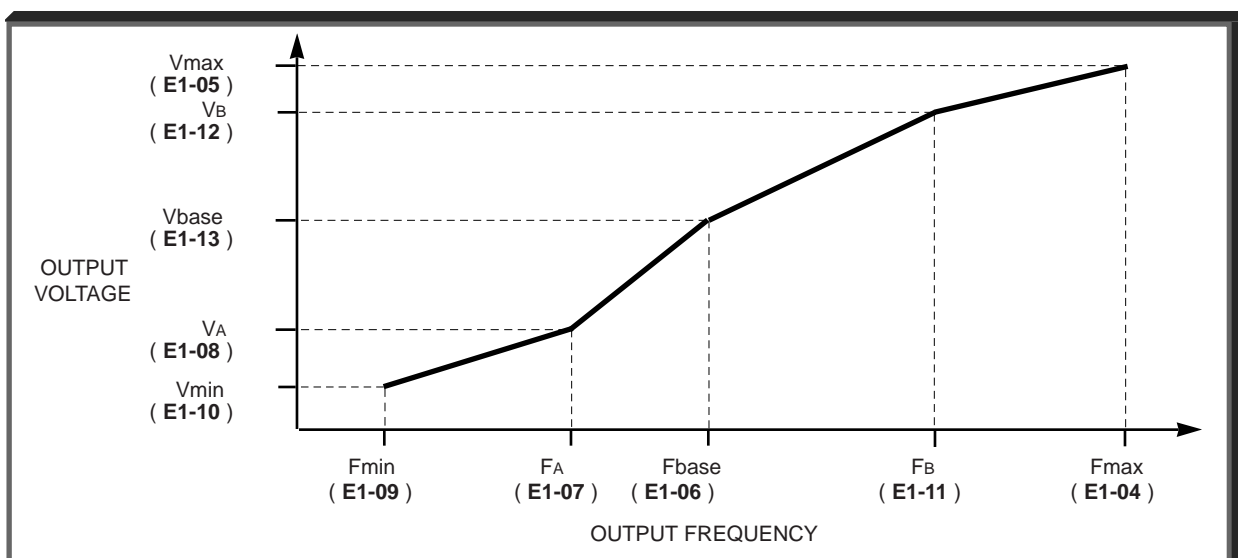

Figure 1. V/f Characteristics Set by E1-04 thru E1-13
2. Set the V/f pattern. This pattern can be a standard (preset) V/f pattern or a custom V/f pattern. Preset V/f patterns can be found in Table 5-4 (Section 5.48) ⁽²⁾. A preset V/f pattern is selected by the setting of **E1-03**. When one of these preset V/f patterns is employed, parameter **E1-01** (Input Voltage Setting) needs to be set at the motor's nameplate value. If a custom V/f pattern is desired, set **E1-03** = F (User Defined V/f) and use Figure 1 and parameters **E1-04** thru **E1-13** to set it up (Section 5.48) ⁽²⁾.